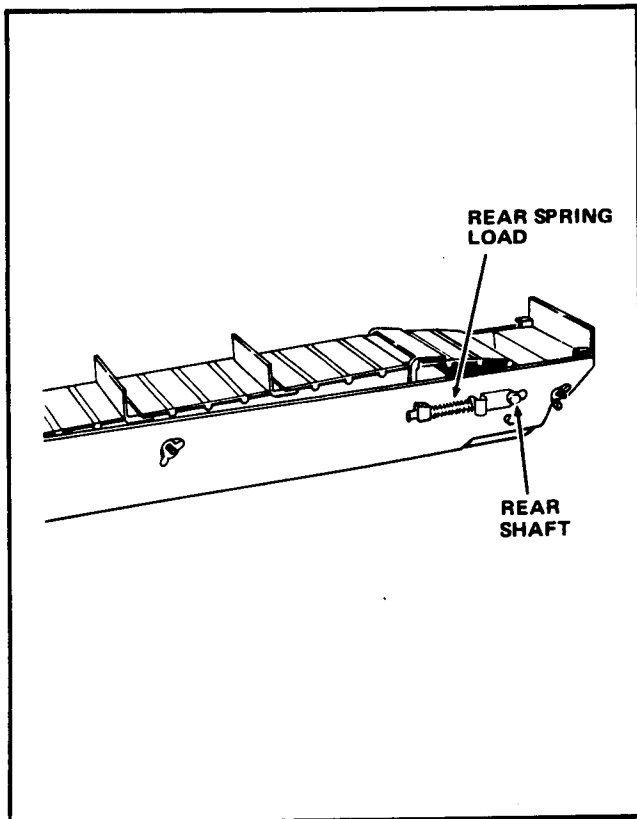

FIGURE 13
21. Compress both of the Rear Spring Loads and place them in the Grooves on the Rear Shaft. See Figure 13.